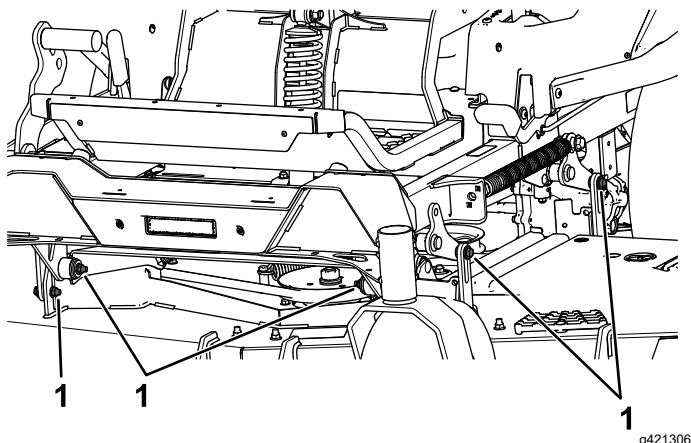

Figure 104
7. Remove and retain the bolts and nuts on both sides of the machine (Figure 104).